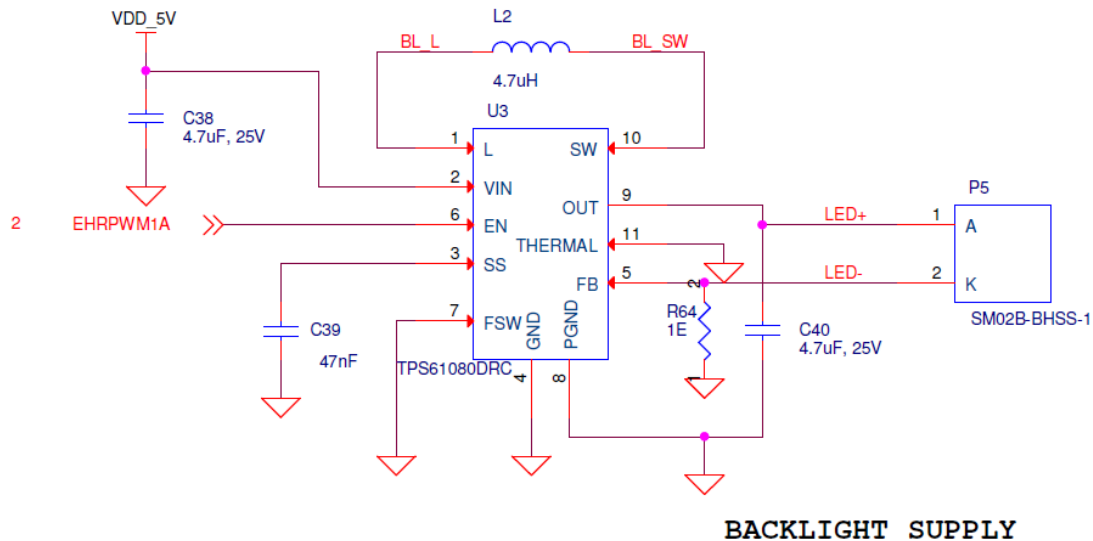

Figure 8. BeagleBone LCD7 Backlight Circuit
respectively. TPS61080 utilizes an external inductor to store and transfer energy to the output capacitor which is connected to the Anode terminal of the LCD backlight. The Cathode terminal is connected to the feedback (FB) pin of the device. A current sense resistor is connected to the FB pin for a constant current output. Figure 8 shows the backlight circuit of the BeagleBone LCD7 Cape:
The EEPROM used on this cape is the same one as is used on the BeagleBone, a CAT24C256. The CAT24C256 is a 256 kb Serial CMOS EEPROM, internally organized as 32,768 words of 8 bits each. It features a 64-byte page write buffer and supports the Standard (100 kHz), Fast (400 kHz) and Fast-Plus (1 MHz) I2C protocol. **Figure 8** is the design of the EEPROM circuit.